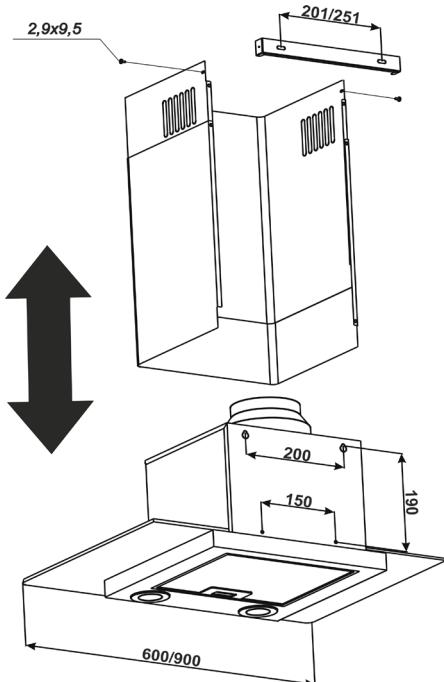

Fig. 4
6.4 Mark fixing points on the kitchen wall. For this purpose, make a paper template with the coordinates of 4 holes on the back panel of the housing (**points A, B, C, D; see installation diagram**); attach the template to the wall at the required height specified earlier and level it (Fig. 4).
6.9 Install the telescopic chimney casing on the hood housing. Lift the top panel of the casing with the bar to the ceiling so that it covers the ventilation duct, and mark **2 holes for fastening (points E, F)** in accordance with the slots of the bar (**Fig. 4**).
6.13 Install the outer panel of the chimney casing into the grooves on the hood housing, and lift the inner one upwards to align the mounting holes with the bar and connect the sides with **2 pan-head screws 2.9x9.5 (Fig. 4)**.